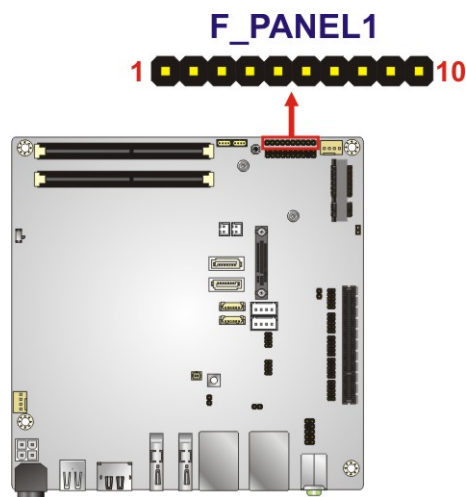

Figure 3-10: Front Panel Connector Location
- CN Location:** See **Figure 3-10**